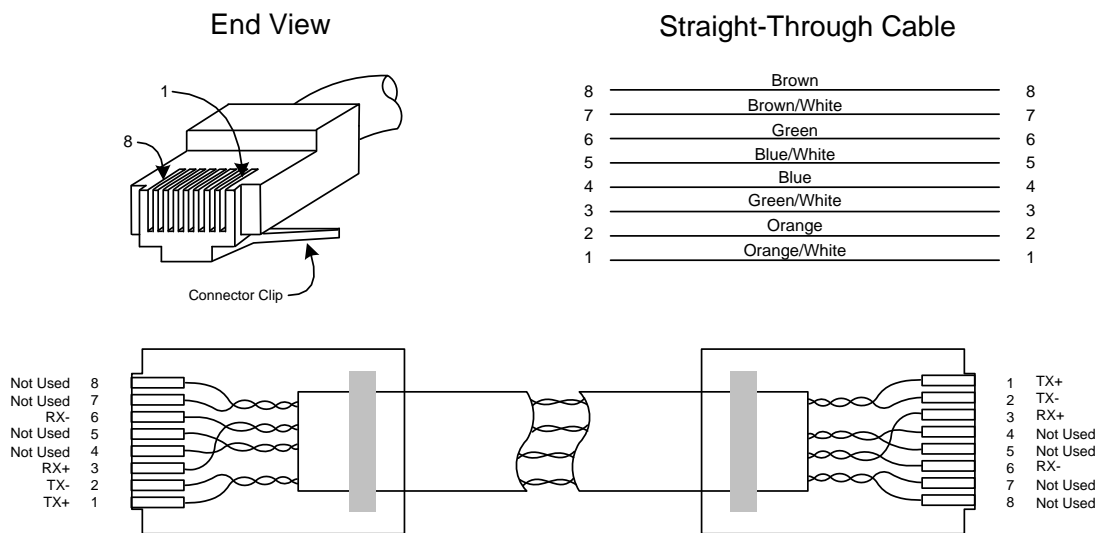

Figure 4-2 Ethernet Cable-Typical
- Ethernet Straight through Cable (see Figure 4-2).